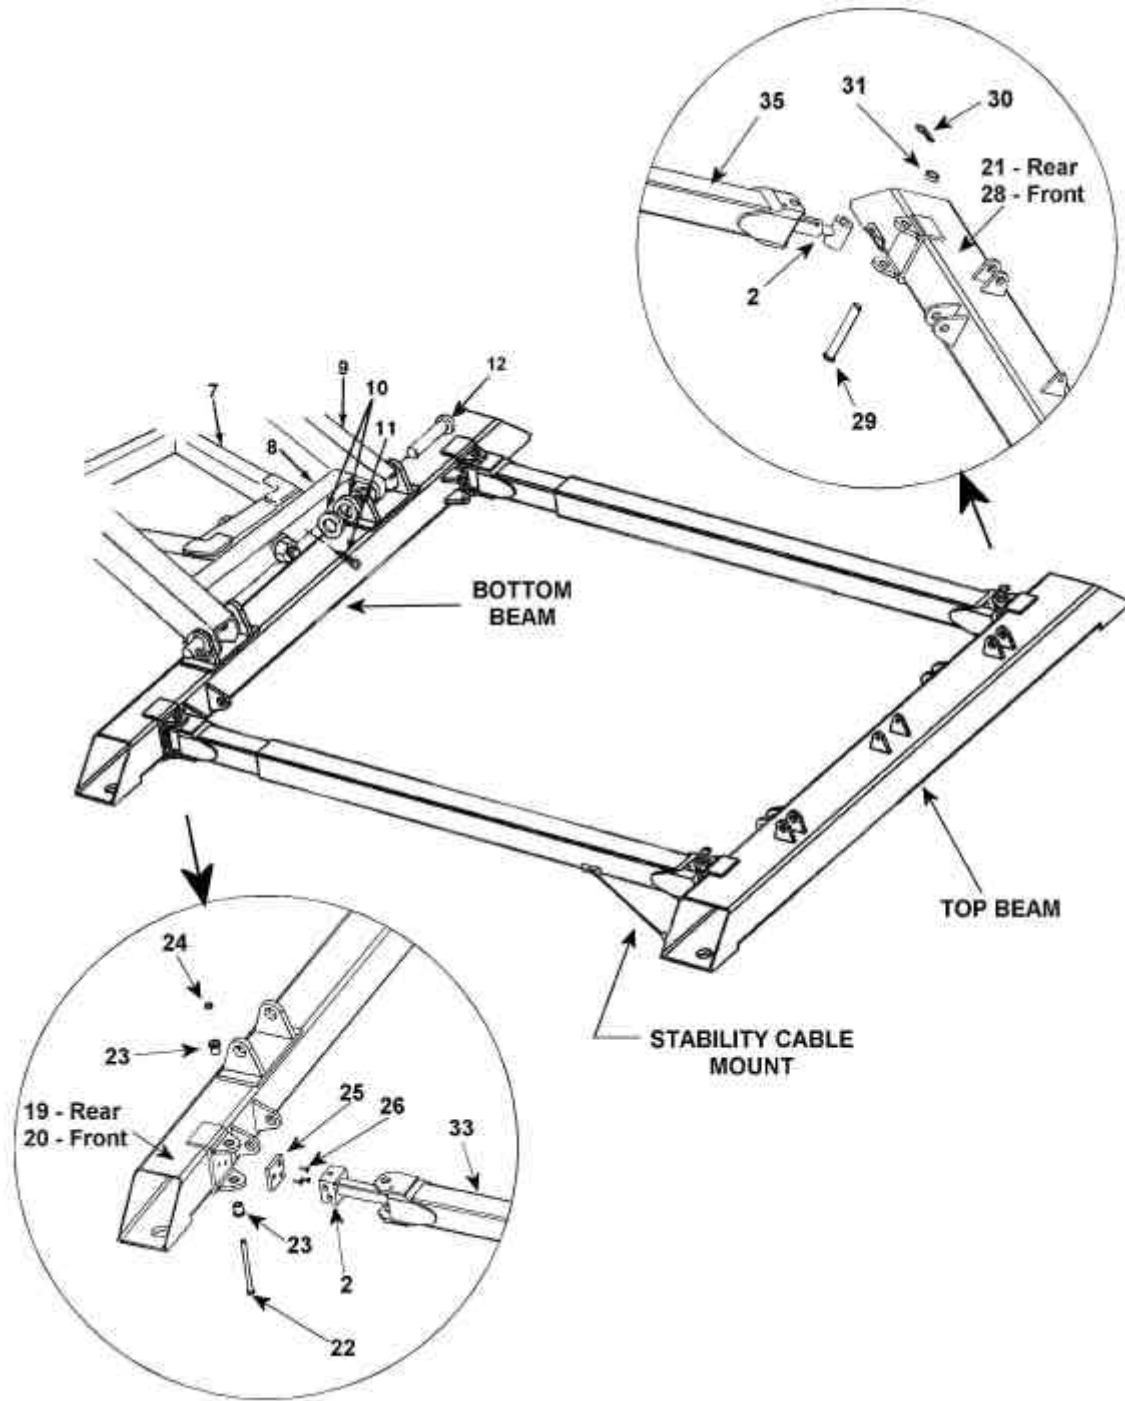
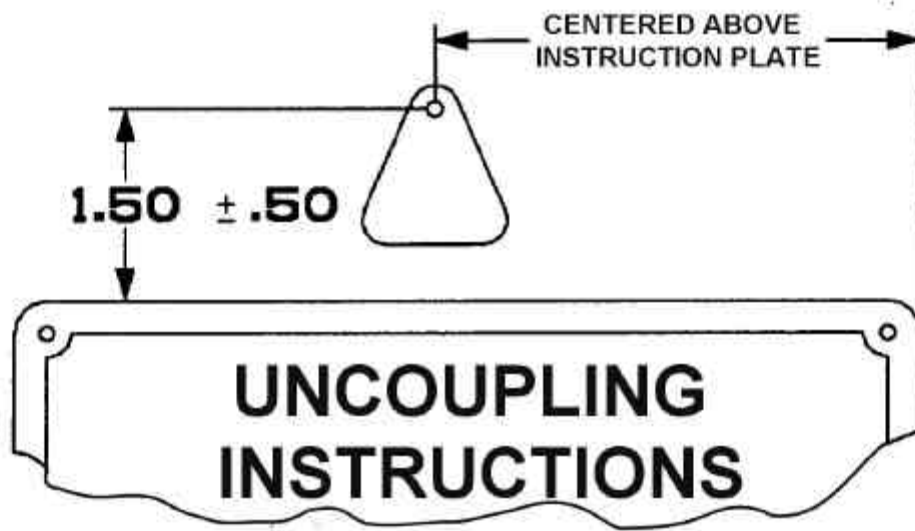

Figure 7
Figure 9
- (1) After the Positioning Tube Reinforcement Kit is installed, mark MWO under 9-2330-390-25-1 in the MWO Applied block and Date Applied in Date Block on MWO instruction plate P/N 10930014 (91).
- (2) To install the MWO instruction plate, locate a single 0.107 inch diameter hole (#37 - drill size) on the front upper left (hydraulic valve side) vertical tube above the instruction plate (see figure 9). Use #4-3/16 drive screws to attach.
15. MATERIAL CHANGE (MC) NUMBER.
- a. The Material Change (MC) Number for this MWO is 1-05-08-0001
- a. When installed correctly, the Positioning Tube Reinforcement Kit will appear as shown in figure 7.